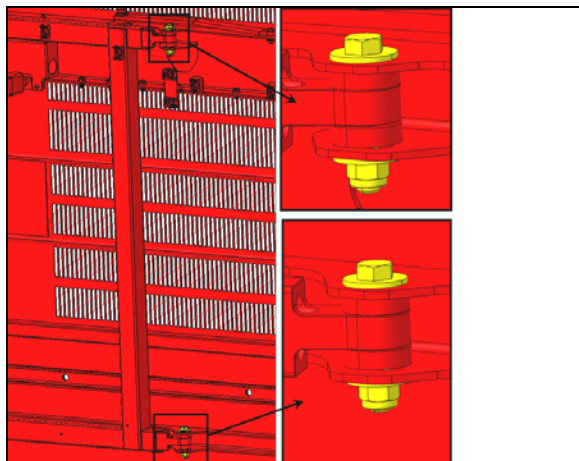

FIGURE 47
4. If the vertical position is out of tolerance, rotate the door using the adjustment provided on the inner side of the door, at the attachment points between the arm and the door (FIGURE 47).